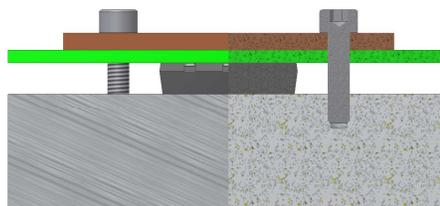

Figure 4: An example for PCB and heat sink assembly
- i) When a PCB is used as shown in Figure 4 then the device should be soldered on the PCB first. It's required that the SMPD base and heat sink surfaces are parallel to each other.